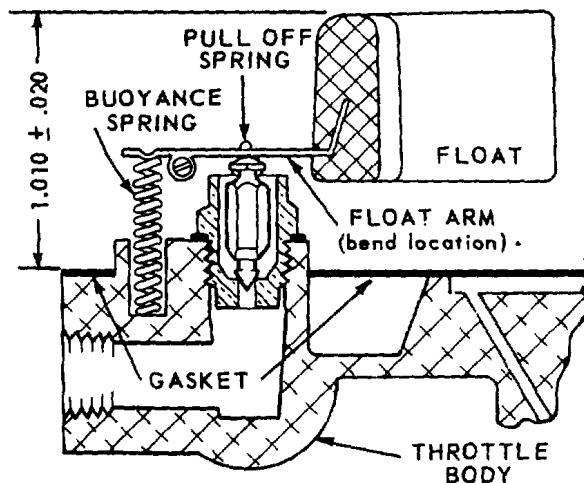

FIGURE 30. FLOAT SETTING
FUEL LEAKS FROM CARBURETOR **Float level set too high:** Remove bowl, invert carburetor and set float. See Fig. 30 and Float Setting Instructions, page 14-15.
Low fuel level: See Fig. 30 and Float Setting Instructions, page 14-15.
Valve Seat (16) 40 to 50 inch pounds torque Main Jet (22) 50 to 60 inch pounds torque **FLOAT SETTING, Fig. 30** With fuel bowl removed and float assembly in place, turn throttle body upside down so that float assembly is on top.